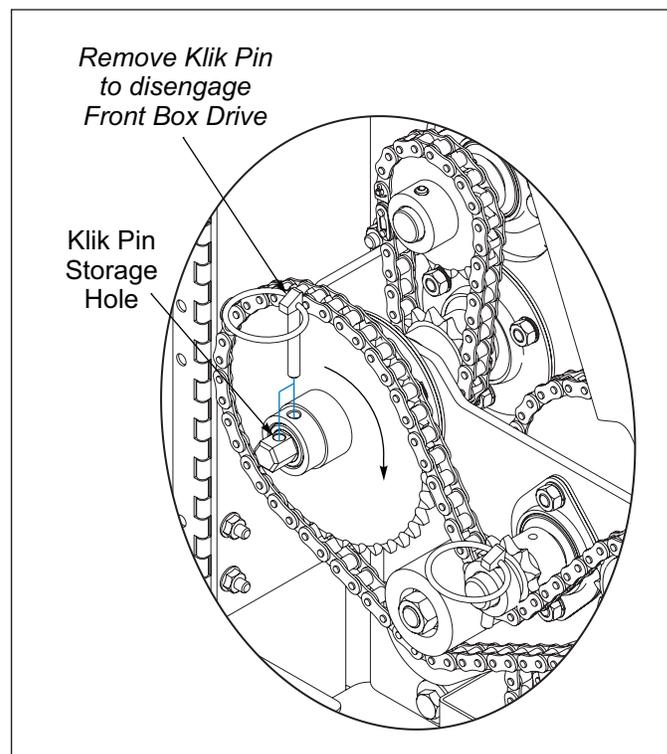

Figure 3-8: Front Seed Box Disengaged
- Disengage Till 'N Seed Front and Rear Box Seed Metering System when two or more tillage passes are needed. Disengage the Front and Rear Seed Boxes Seed Metering System by removing the Klik Pin from the Front and Rear Box Shaft and storing the Klik Pin in the hole at the end of the Shaft. **See Figures 3-8 and 3-9.**